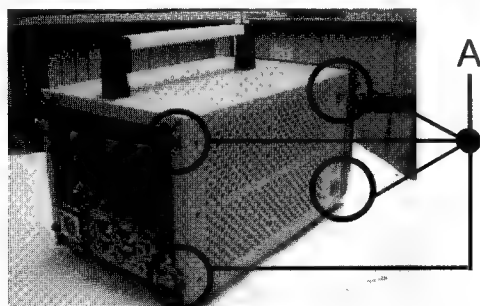

Fig.3
2. Take out 8 screws A (see Figs. 3 and 4).